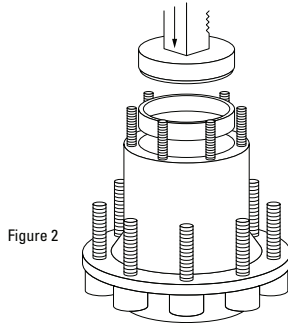

Figure 2
Remove the aluminum hub from the oven or water and carefully insert the new bearing cup, being certain that it is fully seated against the hub shoulder. In some cases, a press may be required to fully seat the bearing cup (see Figure 2).
- 2.) Iron hubs do not need to be heated for bearing cup installation. Using the appropriate tools and press, insert the cup into the hub making sure it is fully seated (see Figure 2).